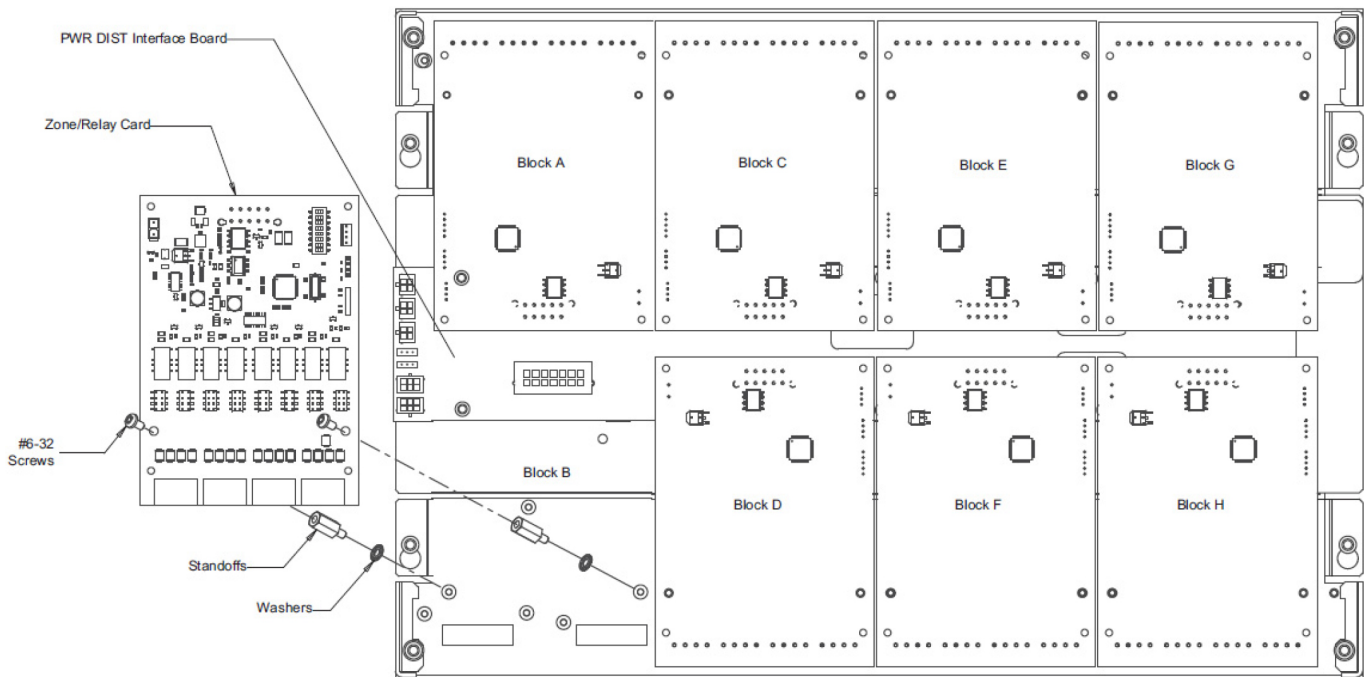

Figure 2: Mounting the card
2. Align the card with the standoffs against the back of the FACU as shown in Figure 2.